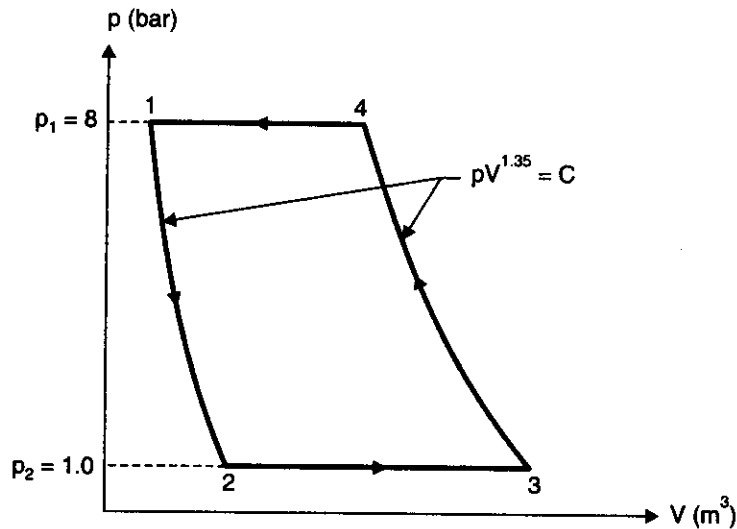

Fig. 14.6
**Solution.** Fig. 14.6 shows the working cycle of the refrigerator.